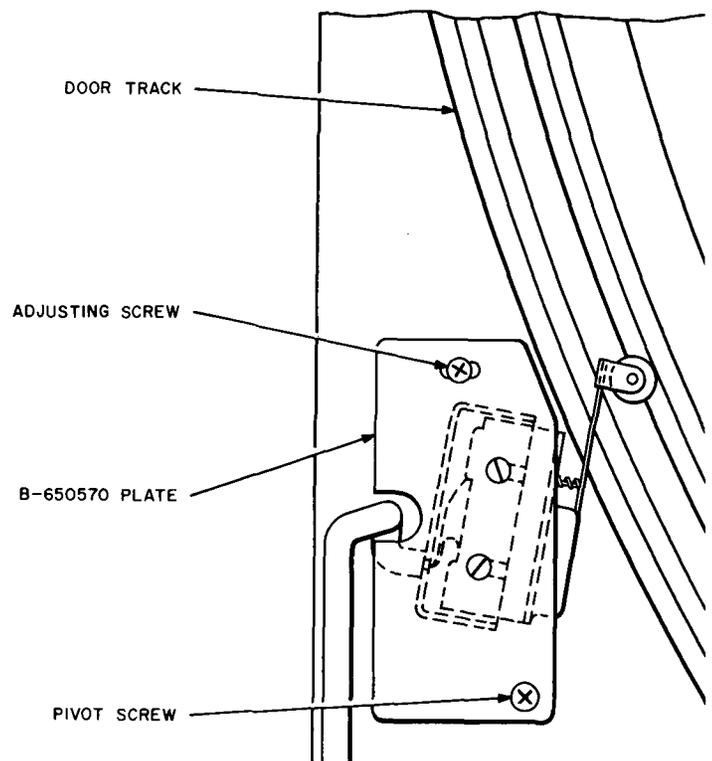

Fig. 1 - B-650626 Door Operated Micro Switch Assembly
**4.01** The blower motor and, in some cases, the light fixture are controlled by a door operated micro switch assembly (B-650626) (Fig. 1). If the switch is not making or breaking properly, it should be adjusted as follows:
- (1) Remove roof from booth.
- (2) Loosen the adjusting screw (Fig. 1).
- (3) Slide the switch mounting plate in or out as necessary.
- (4) Open and close the door to determine the proper switch position.
- (5) Tighten the adjusting screw.
- (6) Install the roof.